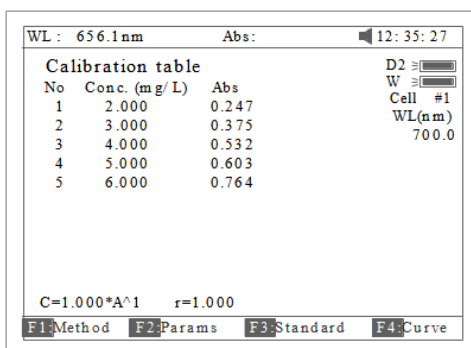

Fig 33
3.3.3 Pull the first sample cuvette of known concentration into the light path, Press the key **【START】** to get values of standard curve one by one (Fig 33).
In Fig 33 press **【Load】** and then press **【^】** or **【v】** to select the file with type *****.fit**. At last press **【ENTER】** TO confirm.